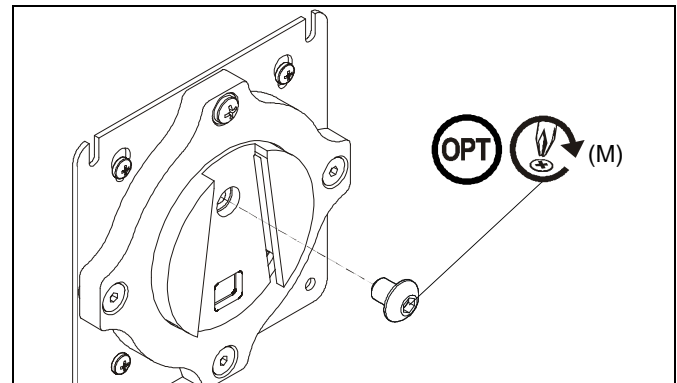

Figure 17
NOTE: (Optional) Rotational adjustment may be locked by installing rotational locking screw (M) into back of faceplate. (See Figure 17)